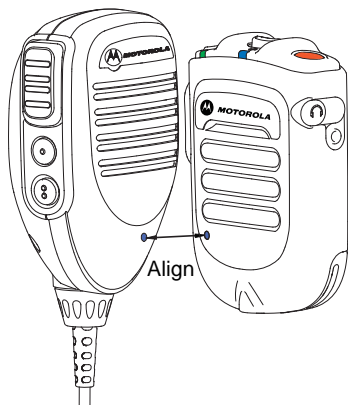

Figure 2.10: Pairing your WRSM
- 2 Place the blue dot (secure pairing spot) on the WRSM within one inch of the blue dot (secure pairing spot) on the Mobile Mic Gateway. Refer to Figure 2.10.